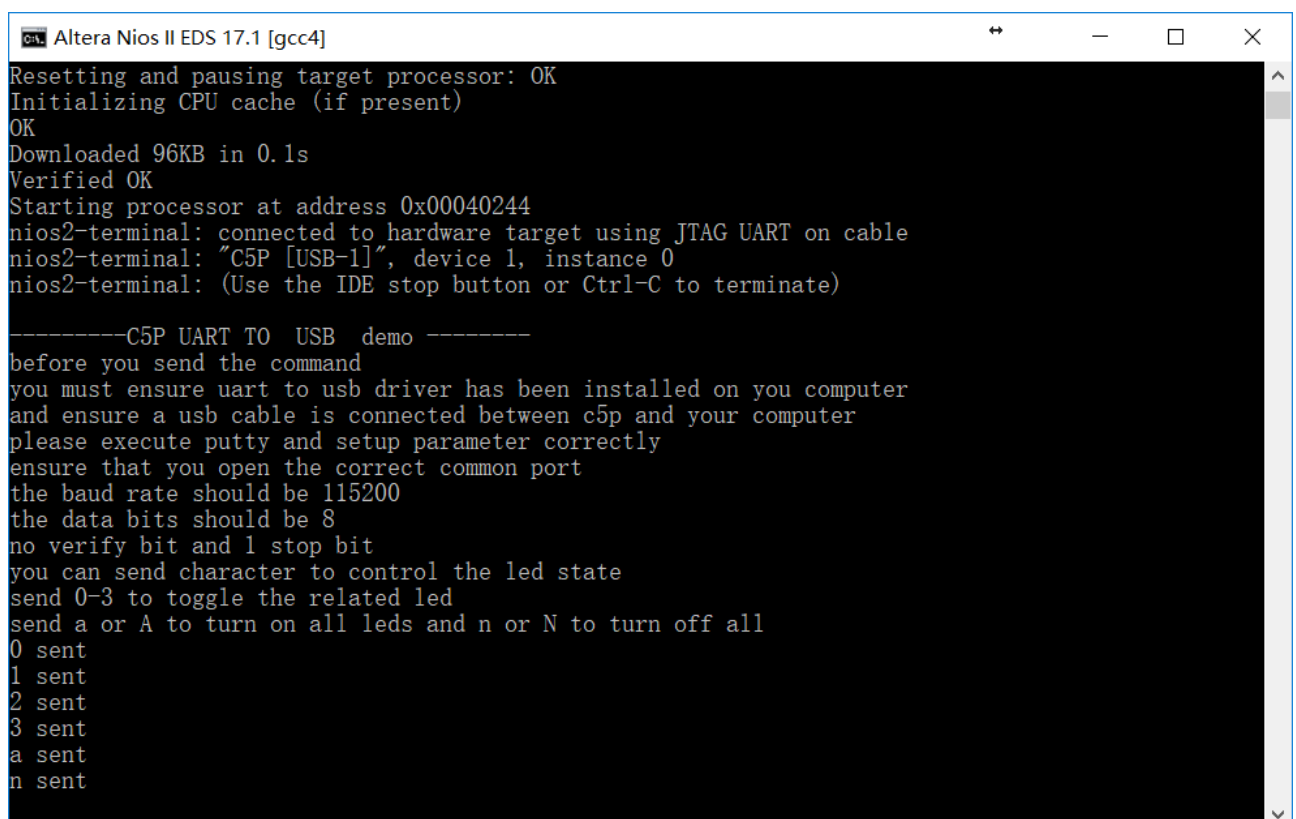

Figure 5-14 Running result of uart_usb demo
- The Nios II-terminal and putty terminal running result as shown in **Figure 5-14**.